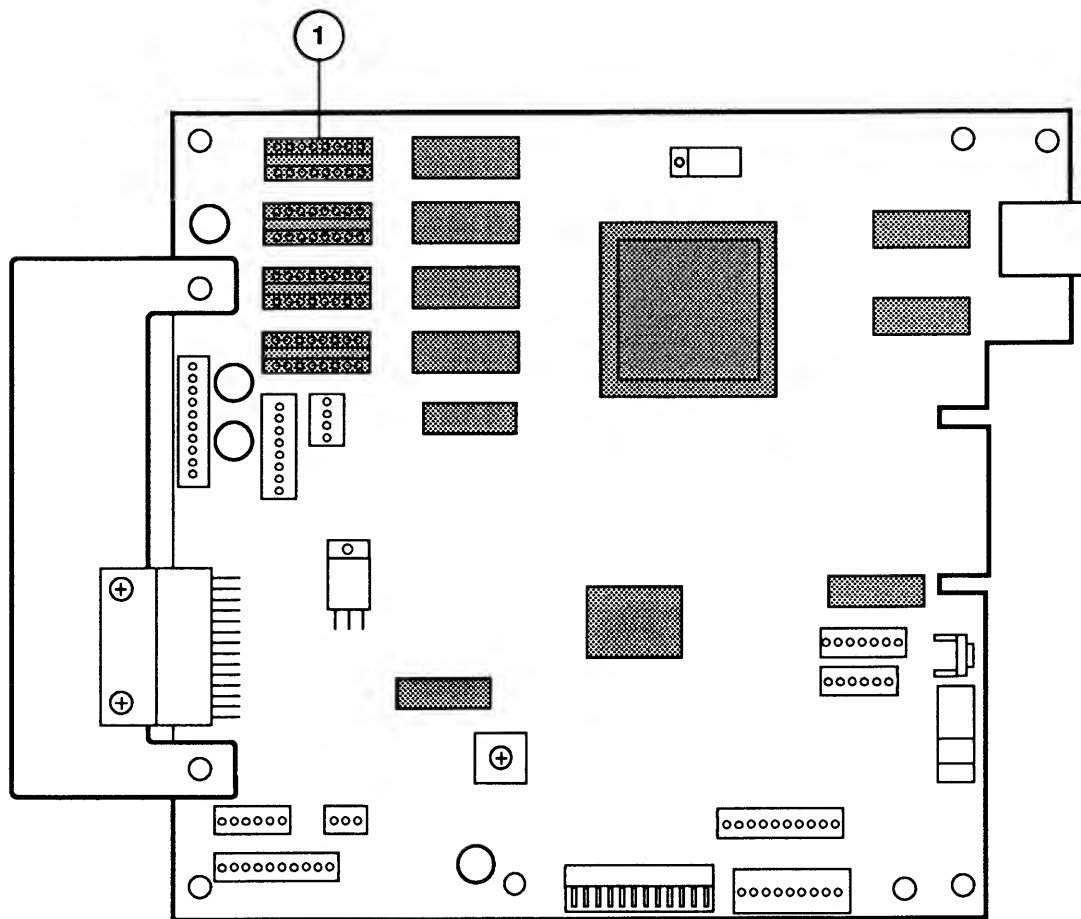

Figure 29
□ SERIAL CONTROLLER – LW LS/L (Figure 29)